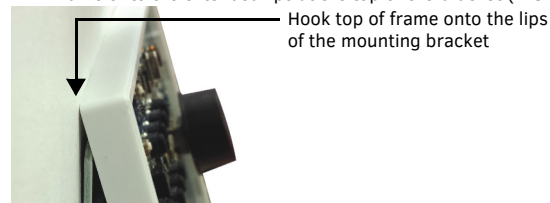

FIG. 3 ATTACHING THE FRAME TO THE METAL BRACKET
5. Attach the ControlPad frame to the mounting bracket by hooking the top of the frame onto the extended lips at the top of the bracket (FIG. 3).